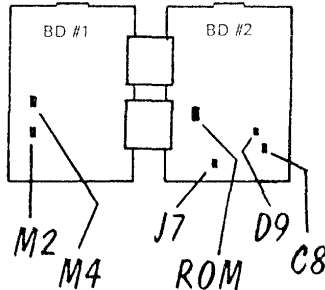
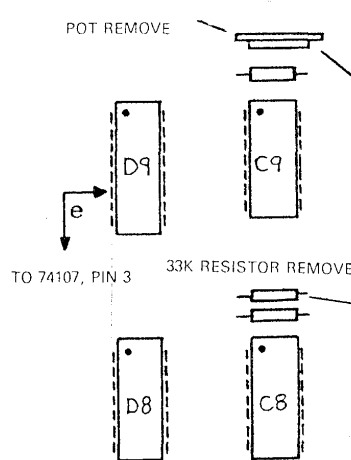

Figure 1: Tank Logics
Figure 2: Tank Logic (partial)
The first thing we want to do is to extend the distance the shell is allowed to travel. *Figure 1* is a drawing of the Tank logic boards. *Figure 2* is a close up view of the part of board two that deals with shell distance.
and C9 is for the white shell. Just above C8 are two resistors. To modify the black shell distance, remove the 33K resistor (*Figure 2*). To modify the white shell distance, remove the pot that is just above C9 (again as per *Figure 2*).
Figure 1 shows the location of devices M2 and M4. M2 is part of the white shell motion circuit and M4 is part of the black shell motion circuit.
- 1) Locate device J7 (*Figure 1*).